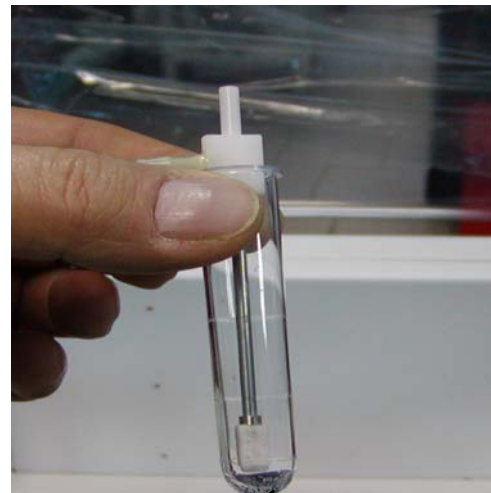

Fig. 5
6. Once the cannula has been removed, immerge it in a 5% solution of sodium hypochlorite for at least 15 minutes (Fig. 5).